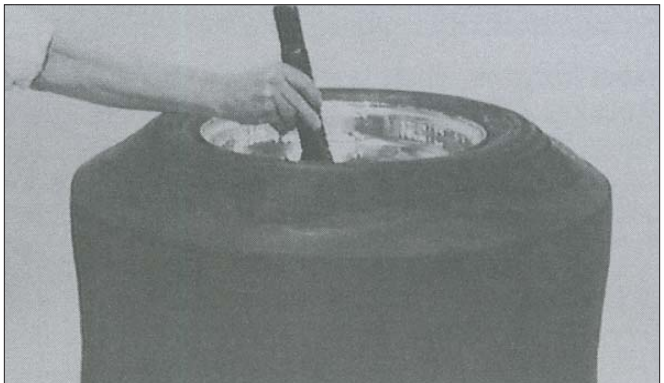

Figure 20 - Optional Long Center Post Extension
**4.** For mounting and demounting tires on wheels wider than 14" , use the optional center post extension (part #8108313). Slip the extension over the center post key (figure 20).